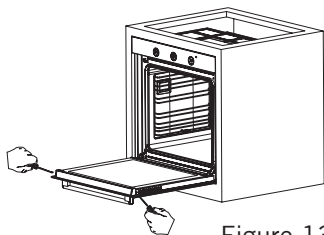
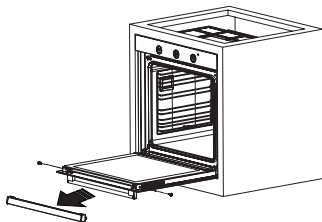
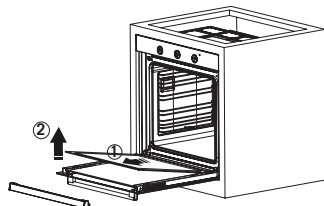

Figure 13
Figure 14
Figure 15
2. Remove the screws on the left and right sides as shown in Figure 13. Remove the profile by pulling it towards you as shown in Figure 14. Glass will be free after the profile is removed as shown in Figure 15. Carefully pull the glass that has become free toward you. If necessary, the middle glass can also be removed in the same way. The outer glass is fixed to the oven door profile. You may easily clean the glass once it has been released. Once the cleaning and maintenance is complete, you can replace the glasses and the profile by performing the removal procedure in reverse. Make sure that the glass is inserted in the correct direction and that the profile is seated properly.